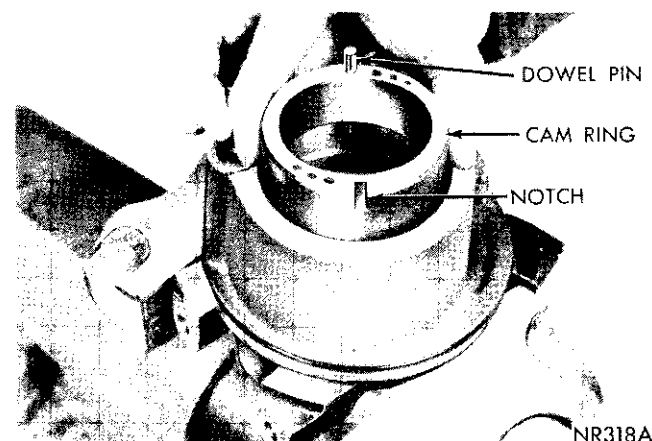

Fig. 26—Installing Cam Ring
- (7) Place dowel pin in cam ring and position cam ring inside pump bore. Notch on cam ring must be up or away from pulley end of pump (Fig. 26). If cam ring has two notches, one machined and one cast, install with machined notch up. Machined notch has sharp corners and cast notch rounded corners.